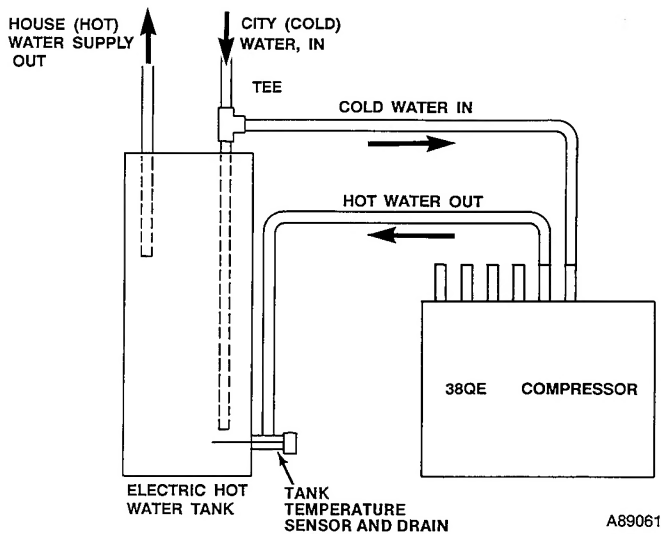
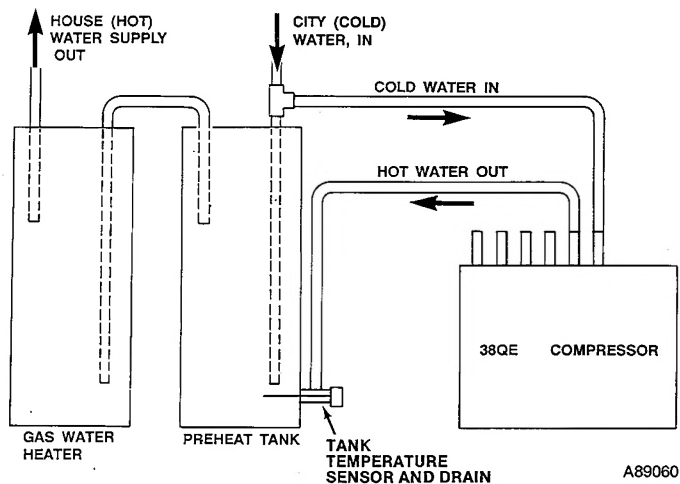

Fig. 7a—Installation with Conventional Electric Water Heater
Fig. 7b—Installation with Gas Water Heater and Preheat Tank
Installation of the 38QE with a conventional electric water heater is shown in Fig. 7a. Installation with a gas water heater and preheat tank is shown in Fig. 7b.
The connection of the water heating lines to the tank includes the installation of the tank water temperature sensor. The tank water temperature sensor is located within the drain fitting of the tank. The fitting location is shown in Fig. 7a,b. The detail for installing the sensor is shown in Fig. 8.
- 3. Remove drain valve from bottom of tank which requires sensor (Fig. 7a or 7b). Install pipe nipples and tee and install tank water temperature sensor as shown in Fig. 8. Bend sensor up to avoid hitting water tanks that have dome shaped bottoms.